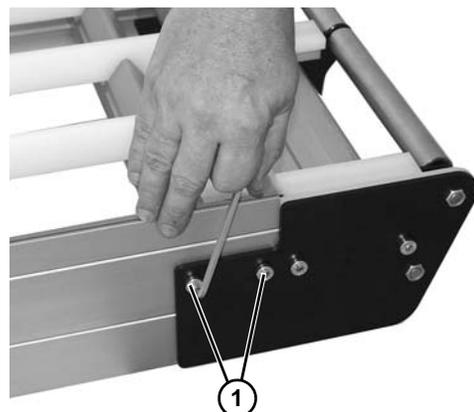

Figure 63
2. On one side of conveyor, remove the two socket head screws (Figure 63, item 1). Repeat on opposite side.